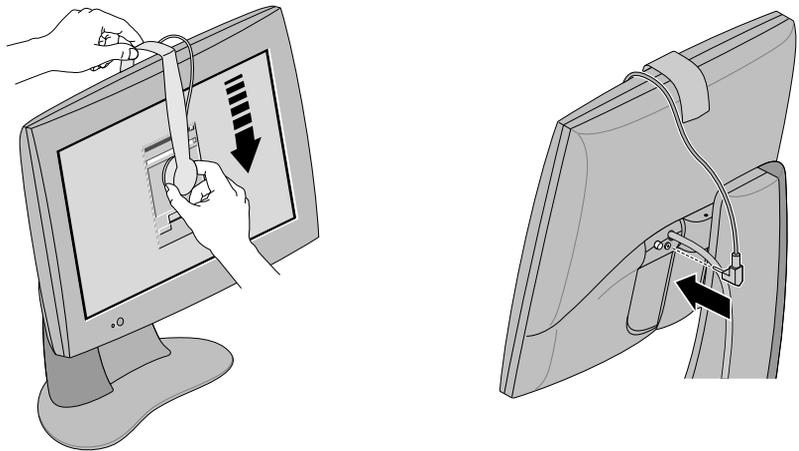

Figure 1-7 Align and Connect Sensor
2. Using both hands, hang the sensor over the top of the monitor, hooking it over the edge of the frame, as shown in Figure 1-7. Be careful not to scratch the flat panel screen.